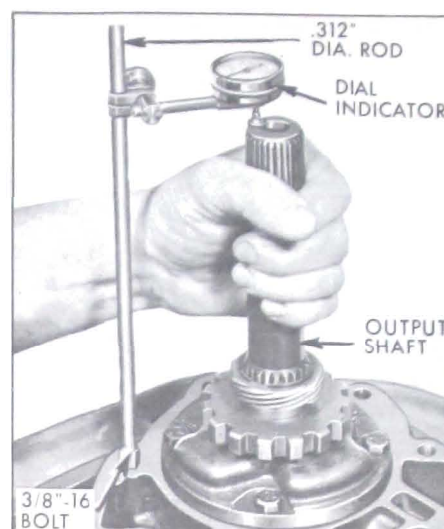

Figure 5-122—Checking Output Shaft End Play Outside Case
19. Assemble dial indicator to stand with plunger resting on end of output shaft. See Figure 5-122.